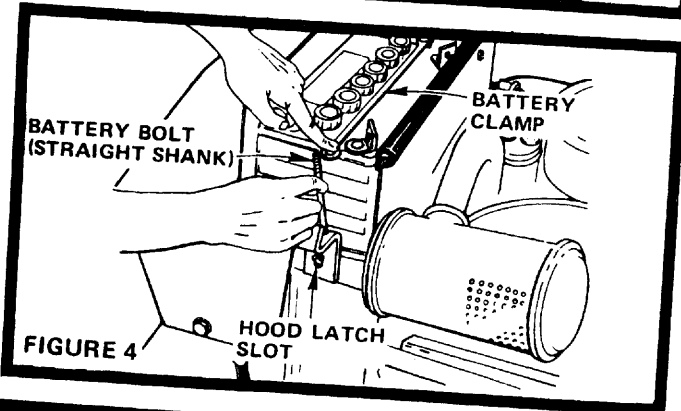

FIGURE 4
- e. Hook the straight shank Battery Bolt into slot in R.H. Hood Latch and fasten Battery Clamp with a Flat Washer and Wing Nut (Fig. 4). Tighten Wing Nuts securely.